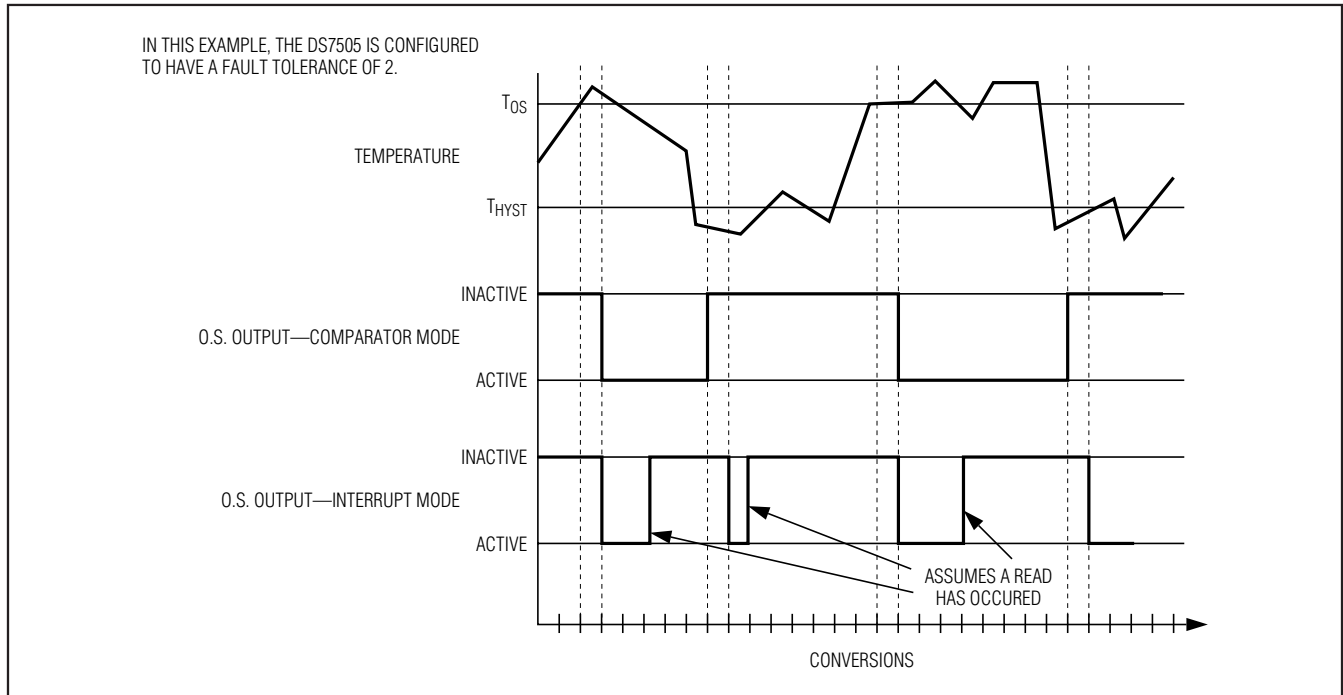

Figure 4. O.S. Output Operation Example
When the thermostat is in comparator mode, O.S. can be programmed to operate with any amount of hysteresis. The O.S. output becomes active when the measured temperature exceeds the TOS value a consecutive number of times as defined by the F1 and F0 fault tolerance (FT) bits in the configuration register. O.S. then stays active until the first time the temperature falls below the value stored in THYST. Putting the device into shutdown mode does not clear O.S. in comparator mode. Thermostat comparator mode operation with FT = 2 is illustrated in Figure 4.
when the measured temperature falls below the T_{HYST} value a consecutive number of times equal to the FT value. Again, O.S. can only be cleared by putting the device into shutdown mode or reading any register. Thus, this interrupt/clear process is cyclical between T_{OS} and T_{HYST} events (i.e., T_{OS} , clear, T_{HYST} , clear, T_{OS} , clear, T_{HYST} , clear, etc.). Thermostat interrupt mode operation with $FT = 2$ is illustrated in Figure 4.